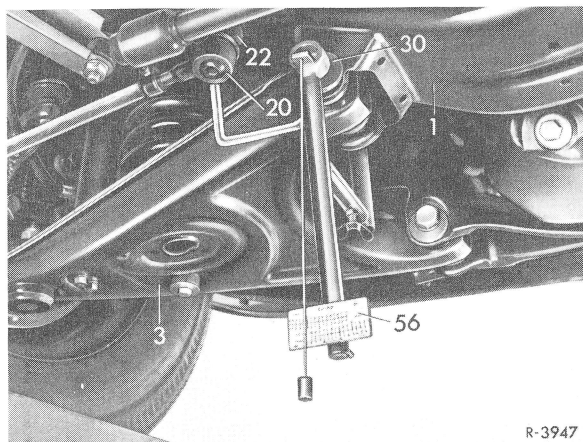

Fig. 6
13 Apply measuring device (56) to measure permissible deviation in height of ball point position between pitman arm and intermediate steering lever (Fig. 6 and 7). Max. permissible difference 4 mm (refer also to 40.1–320 Checking Wheel Adjusting Values on Front Axle).